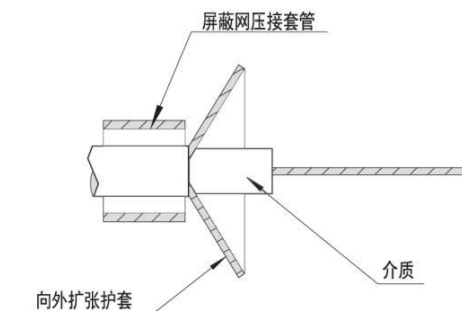

Figure 2.2
② Put the screen net compression sheath on the cable sleeve as shown in Figure 2.2.